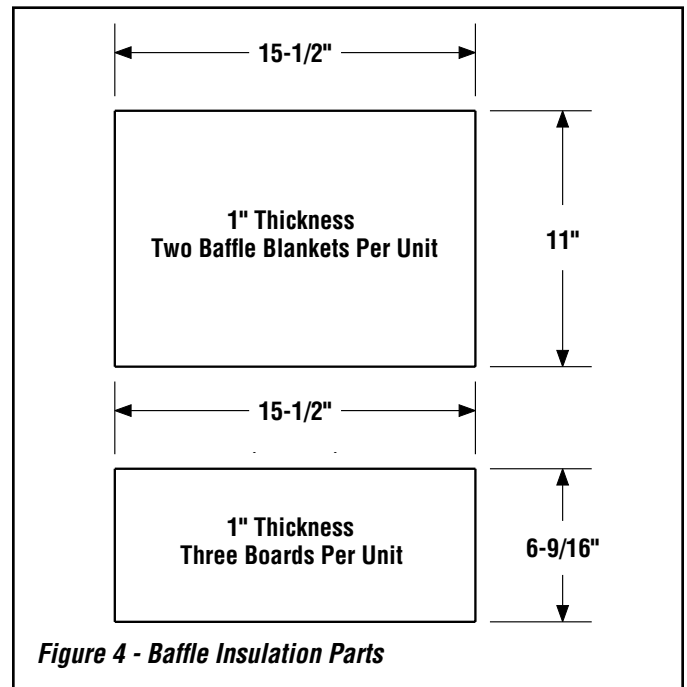

**Figure 3 - Firebox Brick Layout as Viewed from the Front**
1. Install bricks #1-23 as shown in **Figure 3**.